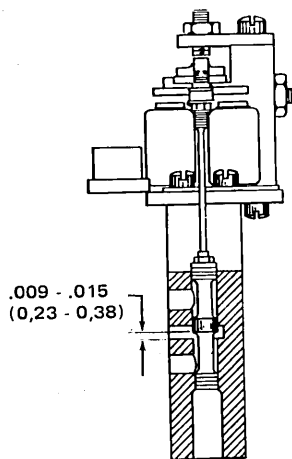

Figure 4-67. Space Valve in Stop Position
- a. This should result in .009 to .015 in. (0, 23 to 0, 38 mm) clearance between the bottom of the valve and the lower surface of the rectangular port with the stop magnet energized and the armature in the stop position (Figure 4-67).